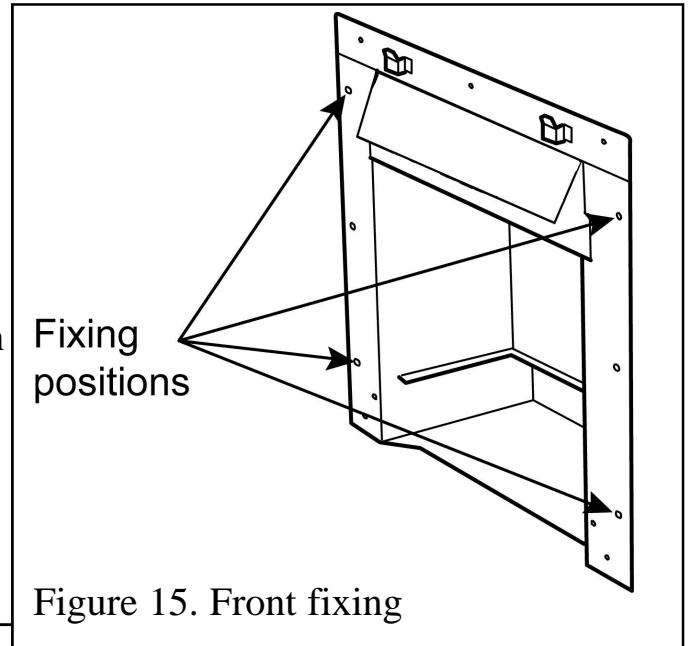

Figure 15. Front fixing
3. Mark the fireplace front surround through the four fixing holes in the side flanges of the convection box (See figure 15).